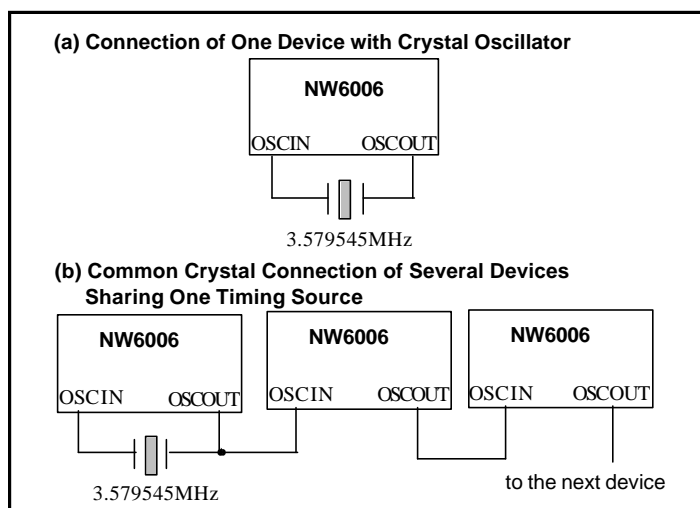

Figure 8. Application of Clock Driven Circuit
A 3.579545 MHz crystal oscillator or other external clock source is required for NW6005. The crystal can be directly connected between OSCIN and OSCOUT pins without any external component. If an external clock source is used, OSCIN pin should be driven by the clock source and OSCOUT pin is left floating or is used to drive other devices. Fig. 8 shows some applications.
- 2) By choosing $t_{GA} = 15$ ms, t_{ABS} will be 15-25 ms (refer to Fig. 8). Current wetting pulse and AC/DC load should be applied right after the \overline{STD} rising edge.